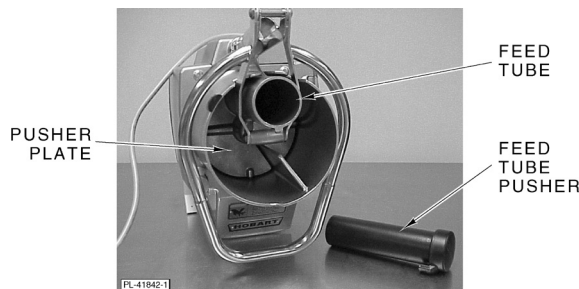

Fig. 10
The feed tube (Fig. 10) processes long and thin items, such as carrots, cucumbers, celery and scallions. It can also be loaded with small, odd-shaped items, such as mushrooms, shallots and garlic cloves. The feed tube pusher (Fig. 10) sits in the feed tube when not in use, doubling as a cover. Removing the feed tube pusher does not stop the food processor from running.
2. Turn the feed tube pusher to unlatch it; remove the pusher (Fig. 10).